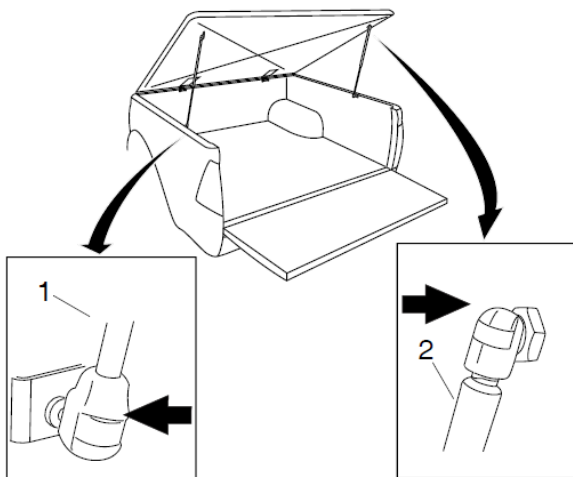

FIGURE 6
2. Attach gas struts (2) by clipping into place. Ensure narrow end (1) mounts to the vehicle. Reconnect harness at front header bar. Refer to figure 6.